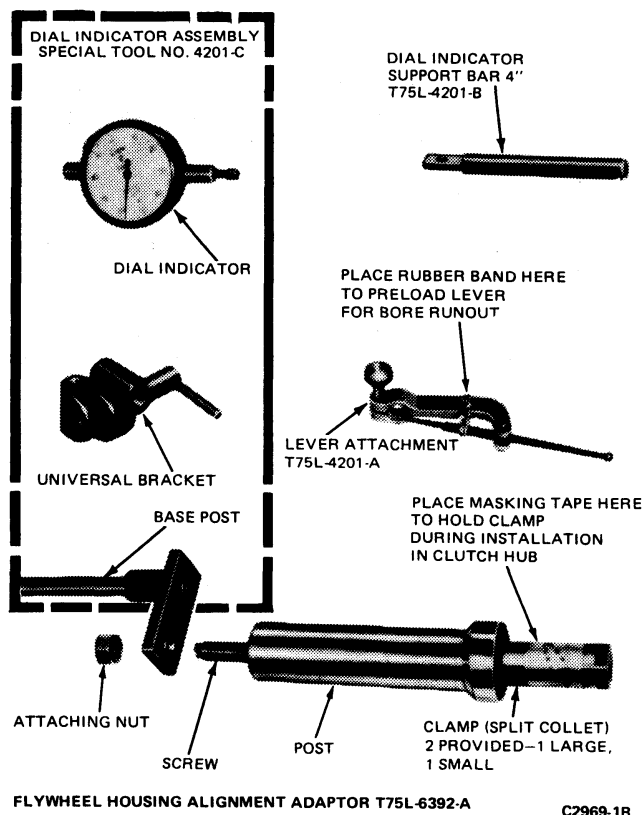
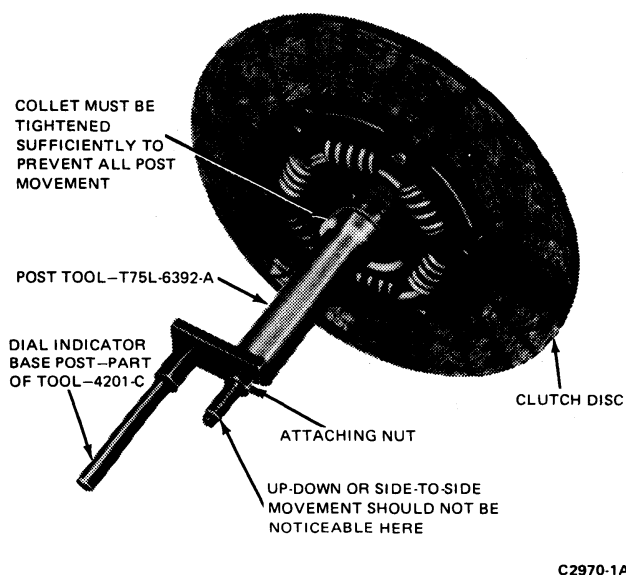
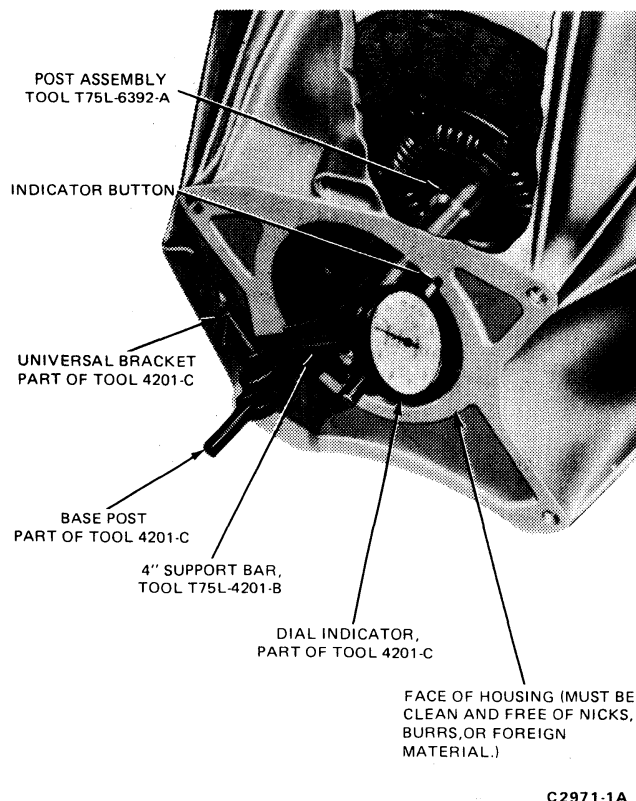
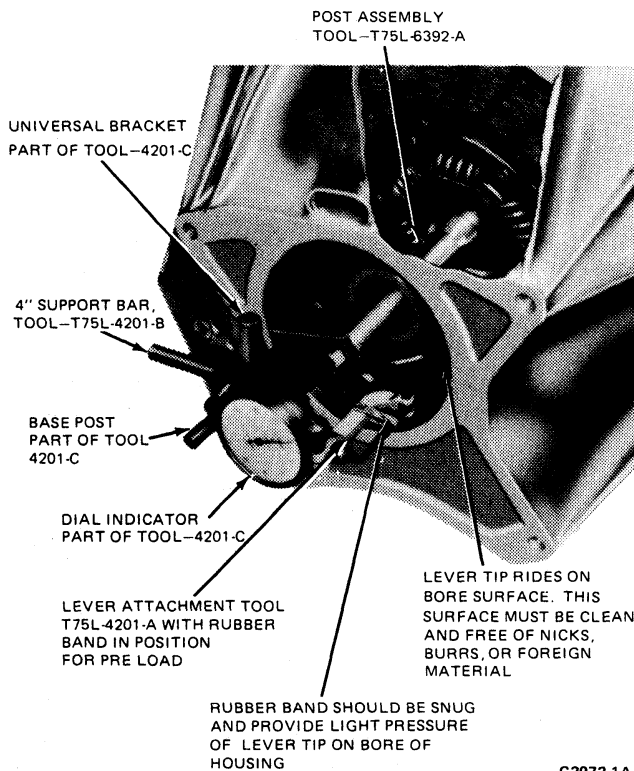

FIG. 1 Special Tools—Flywheel Housing Inspection and Alignment
FIG. 2 Installation of Post Assembly
FIG. 3 Installing Dial Indicator For Face Runout Check
FIG. 4 Installing Dial Indicator For Bore Runout Check
4. Install alignment tool post assembly (Tool T75L-6392-A), with dial indicator base post attached (Fig. 1) through the flywheel housing bore into the clutch disc. Tighten the nut on the end of the post assembly until the clamp (split collet) on the opposite end of the assembly grips the clutch disc splined hub tightly (Fig. 2). Up, down, or side movement of the post assembly must not be evident during the bore and runout test procedure. If any
movement is detectable, the nut should be further tightened until movement is stopped, otherwise erratic readings will result. To facilitate installation of the collet to the clutch disc hub, place a short piece of masking tape halfway around the collet to hold it at its smallest diameter until it can be inserted and tightened (Fig. 1).
extension bar (Tool T75L-4201-B) provided with the alignment kit (Fig. 1). Position the dial indicator so that the indicator button contacts a circumference just outside the transmission pilot hole. Tighten the universal clamp securely (Fig. 3).
10. After completion of the face runout check, install the dial indicator lever attachment to the dial indicator (Fig. 1) and position the assembly to check bore runout (Fig. 4). The rubber band shown attached to the lever (Figs. 1 and 4) must be installed as indicated, prior to installation of the lever, to preload the dial indicator for bore readings.